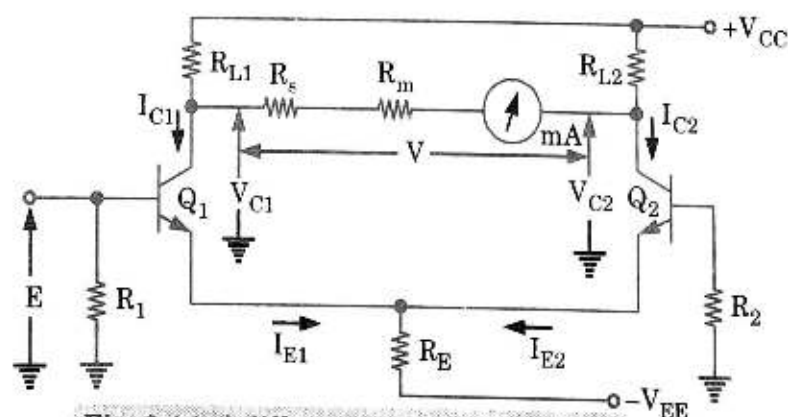

Fig. 2.4.1. A difference amplifier voltmeter.
- Transistors Q_1 and Q_2 together with R_{L1} , R_{L2} and R_E in Fig. 2.4.1 constitute a differential amplifier or emitter-coupled amplifier. The circuit as a whole is known as a difference amplifier voltmeter.
- This is because when the voltage at the base of Q_2 is zero, and an input voltage (E) is applied to the Q_1 base, the difference between the two base voltages is amplified and applied to the meter circuit.
- When a small positive voltage is applied to the base of Q_1 in Fig. 2.4.1, the current through Q_1 is increased, and that through Q_2 is decreased.
- The consequence of this is that the voltage across the meter circuit increases positively at the right hand side and negatively at the left hand side. This meter voltage (V) is directly proportional to the input voltage (E).
- Potentiometer R_3 in Fig. 2.4.1 is an alternative method of providing meter zero adjustment.